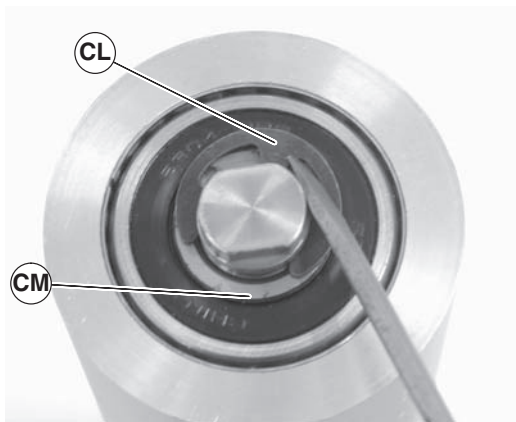

Figure 93
6. Remove the pulley shaft assembly: remove the clip ring (Figure 93, item CL) and washer (CM) from one side of the pulley assembly.